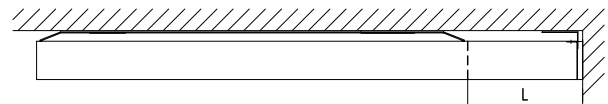

Figure 12. Extended cover with ceiling attachments.
2. Extended cover with ceiling attachments (see fig. 12).